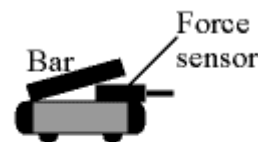

Figure 3: Mounting a bar mass on the cart.
- Compare situations where the carts have equal masses to situations where they have unequal masses (see figure 3).